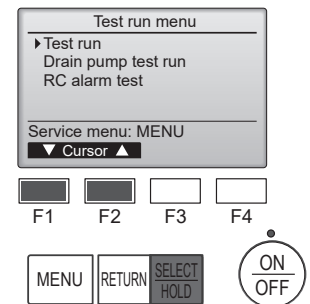

Fig. 7-2
2. Select "Test run" from the Test run menu, and press the [SELECT/HOLD] button. (Fig. 7-2)